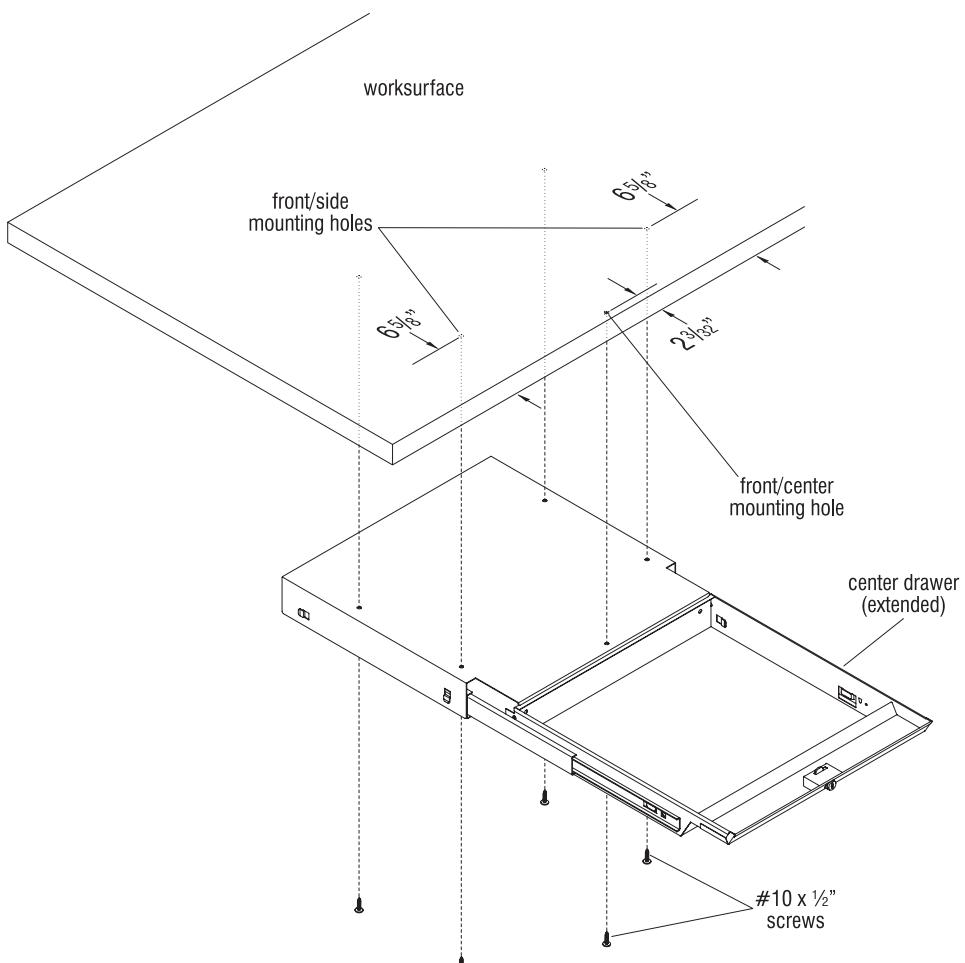

Figure 1
1. Determine a location to install the center drawer. At the center/front of where the drawer will install, scribe a small mark to the underside of the worksurface which is $2\frac{3}{32}$ " back from the front edge as illustrated (Figure 1).
2. At the mark just scribed under the worksurface, drill a $\frac{1}{8}$ " diameter mounting hole to not more than $\frac{1}{2}$ " deep. Place masking tape on the drill bit to act as a depth gauge to prevent from drilling too deep (Figure 1).
3. Extend the center drawer fully out of the drawer case to expose the five mounting holes. Position the drawer case squarely under the worksurface, aligning the front/center mounting hole in the worksurface with the appropriate center mounting hole in the drawer case. With the drawer case held square, mark the four remaining drawer case mounting holes to the underside of the worksurface. The two front side mounting hole marks should both be $6\frac{5}{8}$ " back from the front edge to assure the drawer is mounted squarely (Figure 1).
4. Using a $\frac{1}{8}$ " diameter drill bit with depth gauge, drill the four remaining mounting holes to not more than $\frac{1}{2}$ " in the underside of the worksurface (Figure 1).
5. Position the drawer case up to the five pre-drilled holes in the worksurface and secure the center drawer assembly using five $\#10 \times 1\frac{1}{2}$ " screws (Figure 1).
6. Test the function of the drawer by opening and closing it a few times (Figure 1).